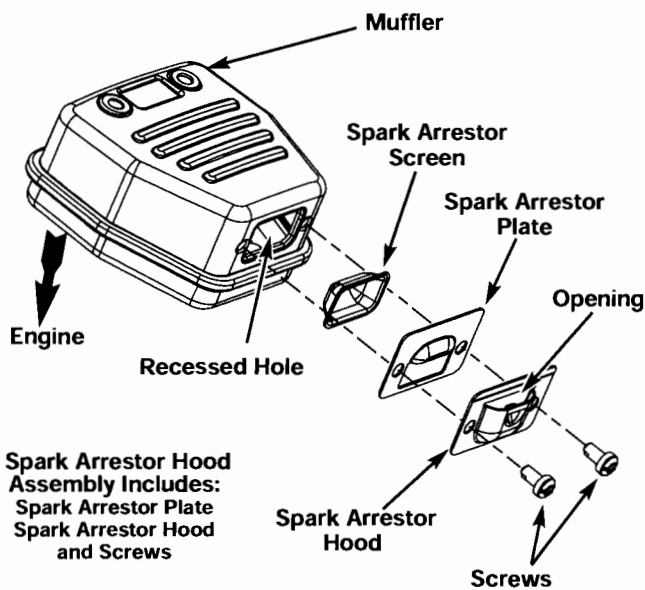

Fig. 30
2. Locate the muffler, but do not remove it. Find the two (2) screws on the bottom of the muffler (Fig. 30). These two screws hold the Spark Arrestor Hood Assembly and the spark arrestor screen to the bottom of the muffler. Remove the two (2) screws using either a torx #20 or flat blade screwdriver.
6. Place the spark arrestor plate on top of the spark arrestor with the "raised" side up and the opening facing towards the engine (Fig. 30).
7. Place the spark arrestor hood on top of the spark arrestor plate with the "raised" side up and the opening facing AWAY from the engine (Fig. 30). Verify that the exhaust will be directed AWAY from the engine.